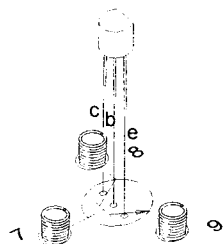

Figure 7
Now, look at the Transistor, with the flat side toward you as shown in Figure 7.
- Mount a Transistor marked C1815 or 9013 or 9014 between 12, 13 and 14. Position it so the flat side is away from spring 12. Insert the leads through the holes provided. On the bottom, connect the upper lead to 13, the center lead to 12 and the lower lead to 14. (See Figure 7 and 8.)
- Mount the other Transistor marked 3904 or 9018 to terminals 7, 8 and 9. Position it so the flat side is away from terminal 7. Insert the leads through the holes provided. On the bottom, connect the upper lead to 8, the center lead to 7 and the lower lead to 9. (See Figures 7 and 8.)
1. Be sure the transistor leads are connected properly. Study Figure 7 and 8 once more and be sure each lead has been correctly connected.